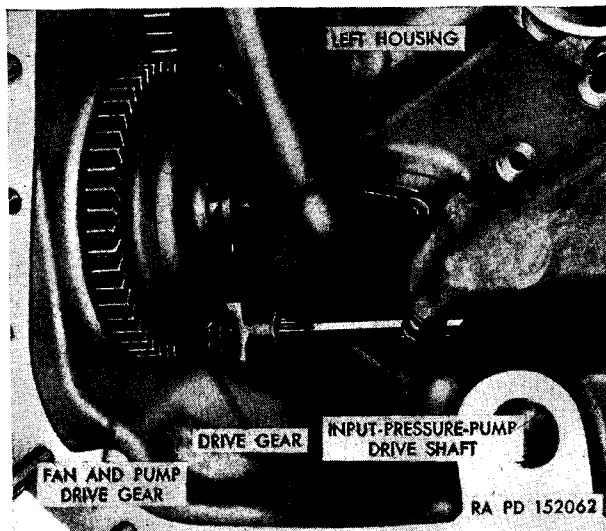

Figure 323. Installing input-pressure-pump drive shaft.
- (1) Install the input-pressure-pump drive shaft in the drive gear (fig. 323). Install the two "O" ring gaskets on the housing to input pressure pump jumper tube. Install the jumper tube, snap ring groove side up, in the housing. Push the tube up into the housing as far as it will go (fig. 324). Install the large "O" ring gasket against the pump cover flange. Install the "O" ring gaskets on the pump base (fig. 325).